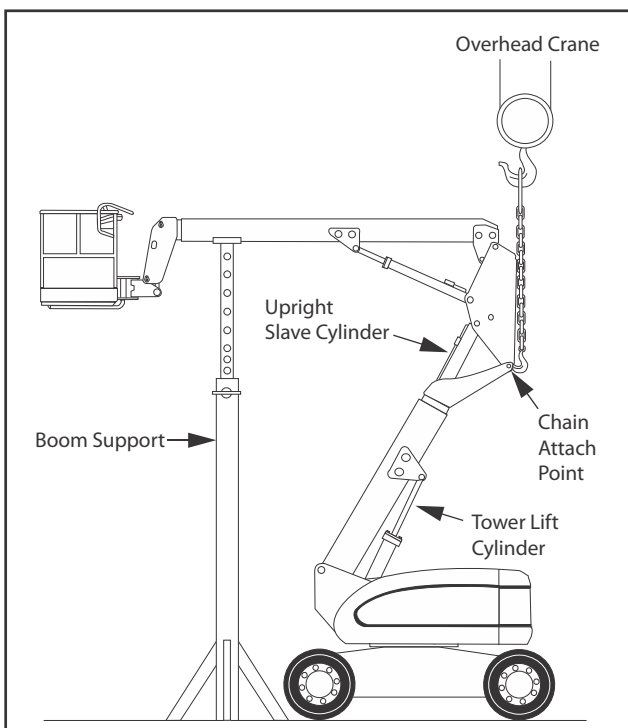

Figure 5-6. Boom Positioning and Support, Cylinder Repair
2. Position and support main boom as shown in Figure 5-6., Boom Positioning and Support, Cylinder Repair.
3. Remove bolt and retaining pin from leveling cylinder to upright pin (1).
4. Support upper boom assembly with overhead crane. Raise boom until tension is released from cylinder pin (1).
Refer to Figure 5-6., *Boom Positioning and Support, Cylinder Repair*.